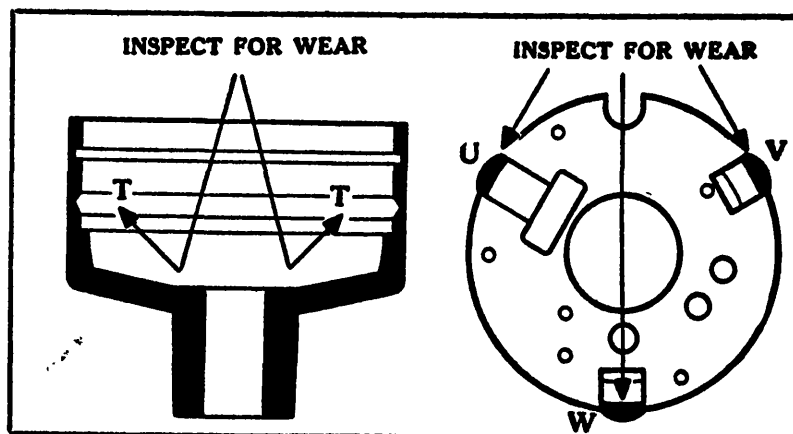

Fig. 10
1. Make a careful inspection of the ball race groove in the distributor cup ("T", Fig. 10) for signs of wear. Inspect slots ("U", "V" and "W", Fig. 10) in ball bearing retainer plate for signs of wear.